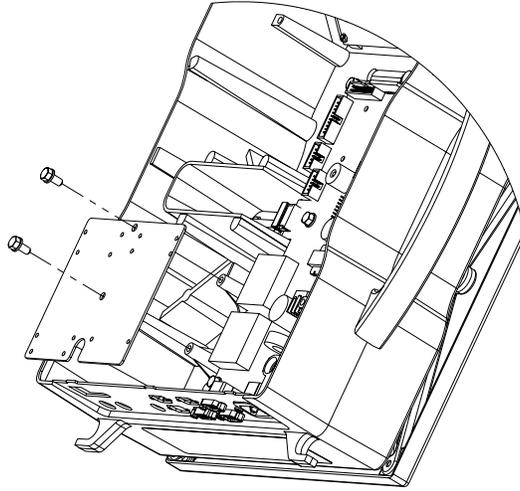

Figure 2-3: Option Bracket Installation
2. Remove the (6) 38-31-8710 M5 x 0.8 x 10 mm screws from the enclosure bottom plate and set it aside.
4. Snap in the (4) nylon spacers in the 4 holes either to the right of the notch or the left of the notch in the option mounting bracket.
6. Install the (4) nylon hex nuts to secure the option board. Refer to Figure 2-3 for details.
3. Remove the (6) 38-31-8710 M5 x 0.8 x 10 mm screws from the enclosure bottom plate and set it aside.
4. Use the (2) M5 self-tapping screws to fasten the option-mounting bracket to the Model 370/375 enclosure. For the installation drawing refer to *Figure 2-3*.